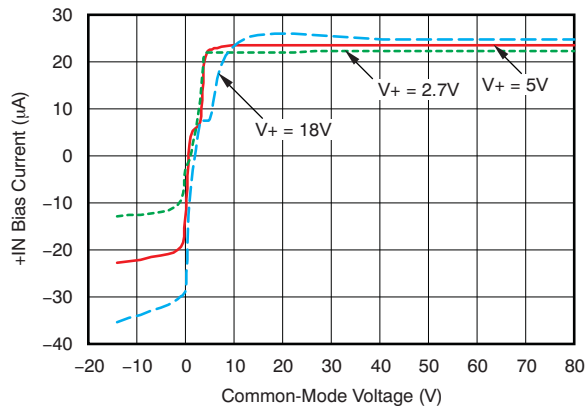

Figure 7. INA283-Q1 +IN BIAS Current vs Common-Mode Voltage
(1) RTI = referred-to-input.
(2) See typical characteristic graph Figure 7.
(3) The average of the voltage on pins REF1 and REF2 must be between V_{GND} and the lesser of $(V_{GND} + 9\text{ V})$ and V_+ .